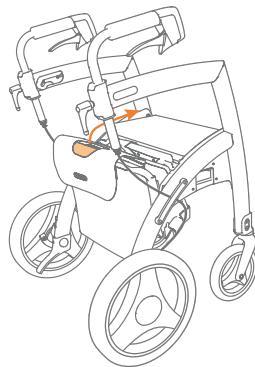

Figure 33: Pull the wheelchair backrest upwards and forwards.
- b. To convert the rollator to an electric wheelchair, the wheelchair package needs to be pulled up. Take the handle of the wheelchair package and pull slightly up and towards the front until halfway up the frame (**Figure 33**).